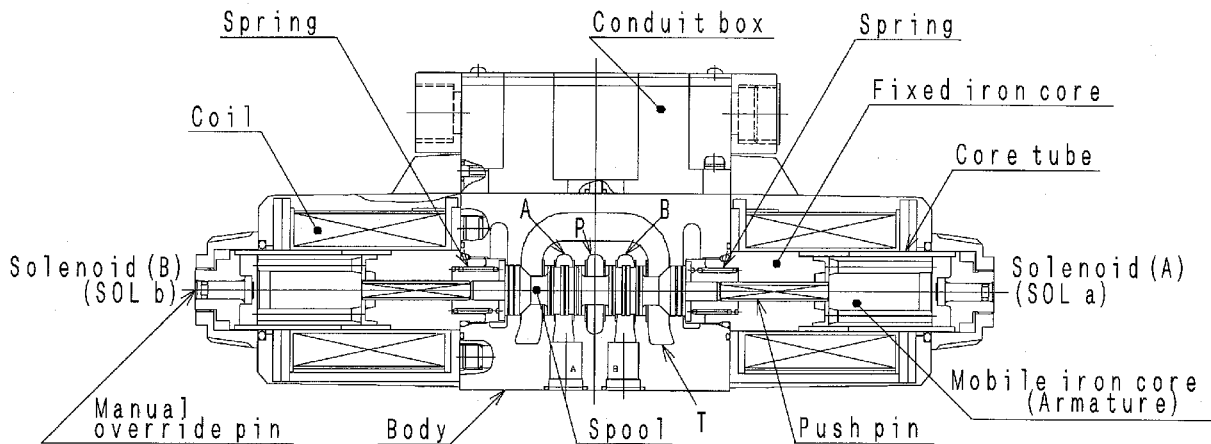

FIGURE 1 Structure of DG4V-5-*C (except for 8C)
Figure 1 shows the structure of the spring center type (DG4V-5-*C) solenoid operated directional control valve.
- (1) This directional valve model has 3 switching positions - solenoid de-energized, solenoid (A) energized, and solenoid (B) energized. (This type is referred to as a 3-position directional valve.)
- (2) When both solenoids are de-energized, the spool is maintained in the neutral position by the force of the springs at both ends of the spool. (Fig. 1 shows the spool in the neutral position.) There are various spool types available which can be selected according to the desired circuit configuration.
- (3) When solenoid (A) is energized, the right armature is attracted to the fixed iron core. This movement is conveyed to the spool via the push pin and moves the spool to the left while compressing the left side spring. This action creates circuit, $P \rightarrow A$, $B \rightarrow T$ (in the case of a "2C" spool).
- (4) When solenoid (A) is de-energized, force of the left side spring compressed by the spool, will act to return the spool to the neutral position.
- (5) When solenoid (B) is energized, the spool will move in the direction opposite (ie. right direction) to that in (3) above to form circuit configuration, $P \rightarrow B$, $A \rightarrow T$ (in the case of a "2C" spool).
- (6) When solenoid (B) is de-energized, the spool will return to the neutral position, similar to (4) above.